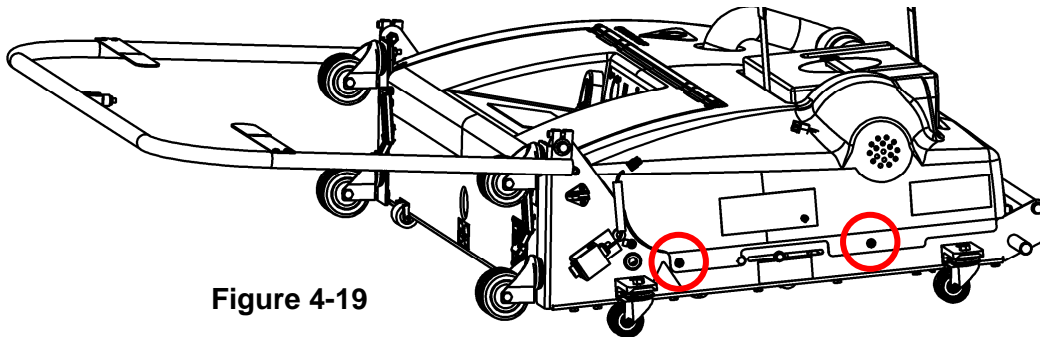

Figure 4-19
1. Unlatch the oil compartment door latches, disconnect the vacuum hose and remove the waste tank, remove the cap from the cleaner tank, remove the two screws from each side of the hood (see Figure 4-19), and lift the hood from the frame. Set the screws aside